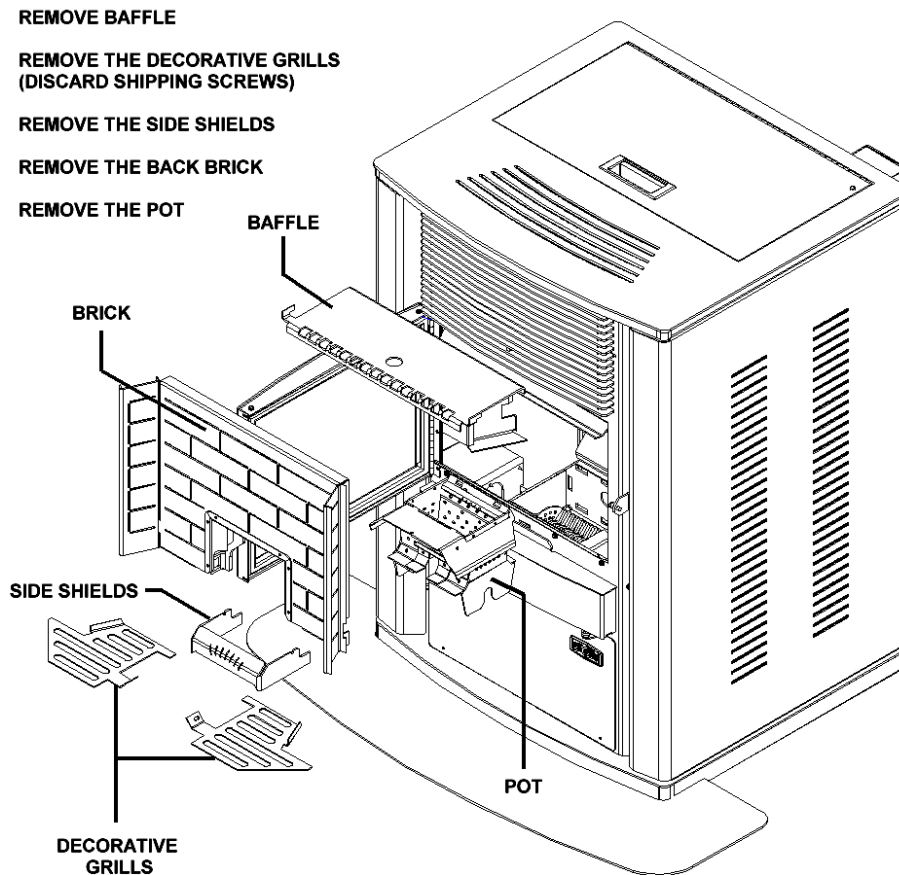
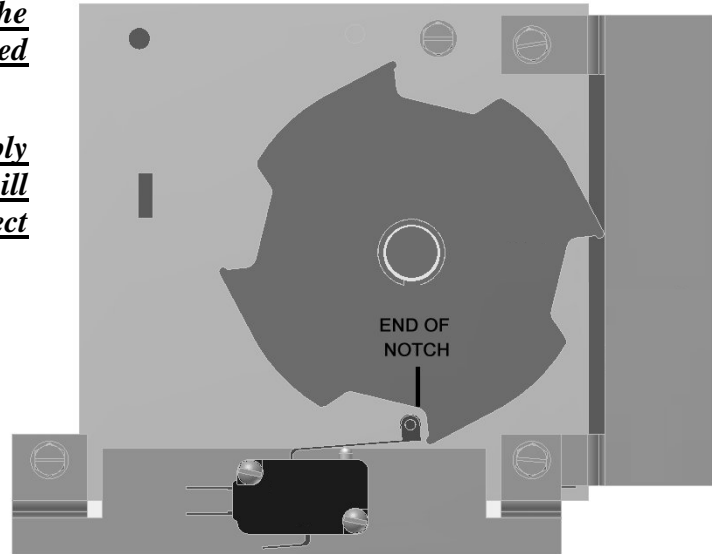

Figure 20
Figure 24
Figure 20 shows in more detail how the pot is removed from the stove for cleaning. The pot should not need to be removed for cleaning if the method is used shown in figures 24 and 25 using a cleaning tool. Try cleaning the pot using both methods to become more familiar with your stove. The Revolution pot design has been changed in this model to make it easier to remove, without having to remove the Gearmotor and the Switch that control the drum.
1. First remove the pot as shown in figure 20.